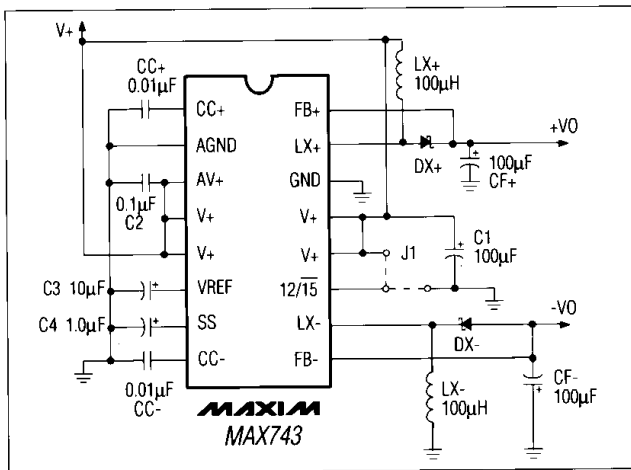
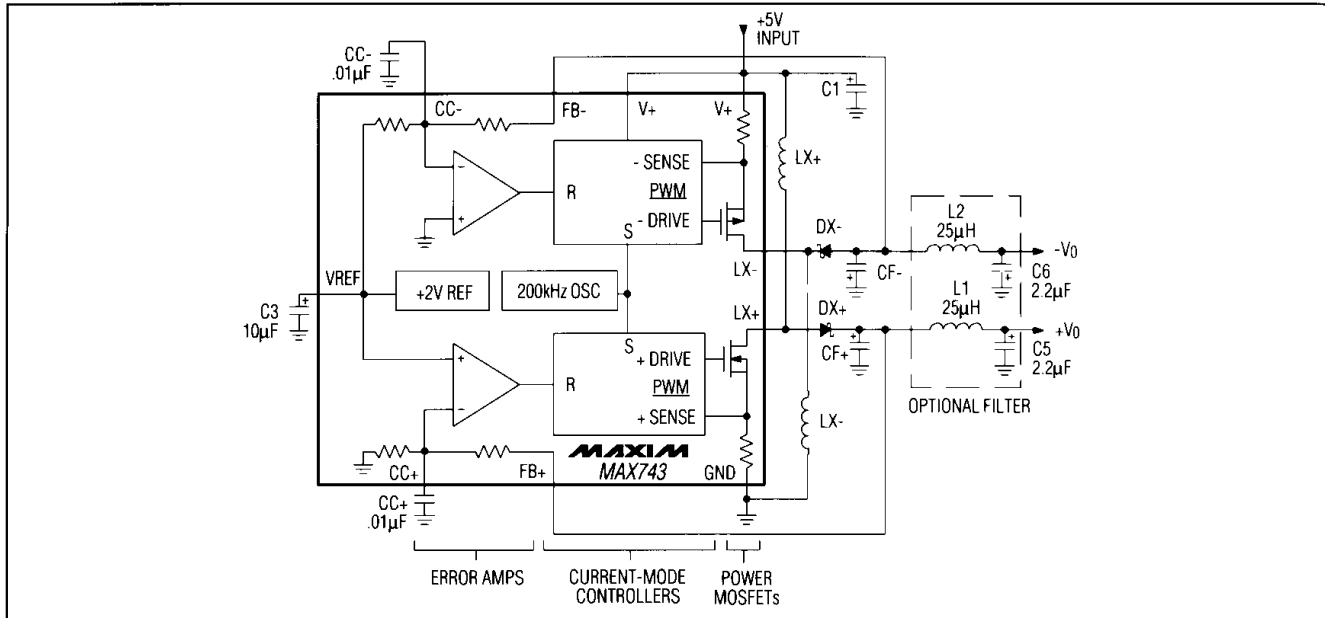
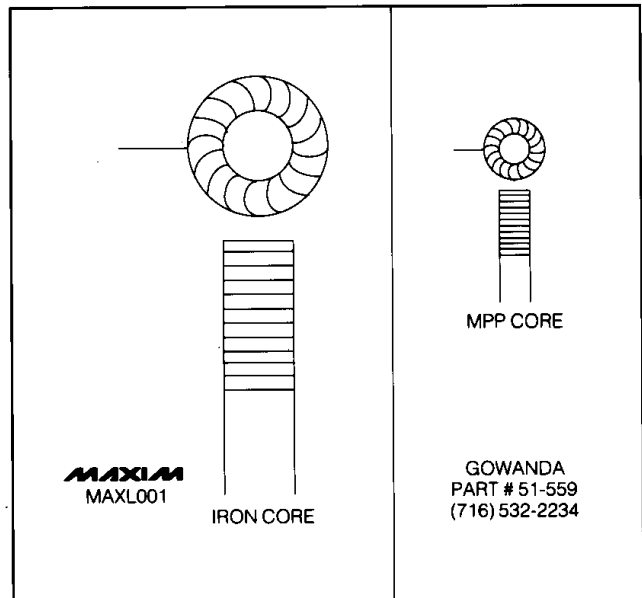
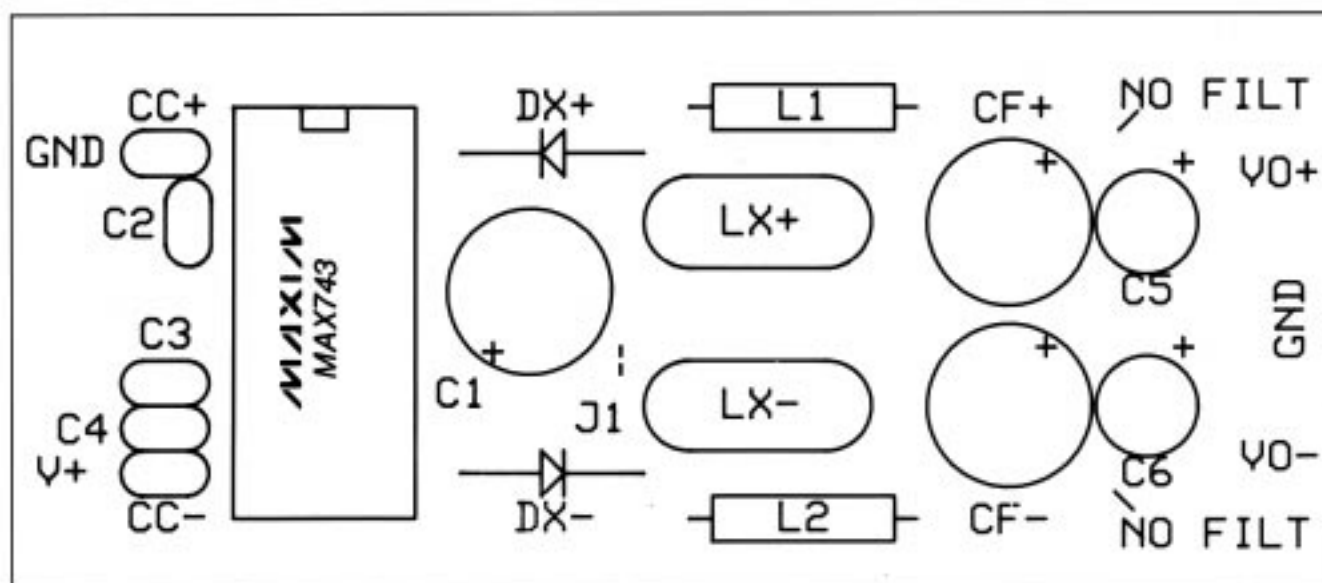

Figure 1. Basic Application Circuit
Figure 4. Functional Diagram with Optional Pi Filter
Figure 5. 100 μ H Low-EMI Inductors for 3W Supplies (Actual Sizes) (See Table 1)
Figure 7. Component Placement Diagram for PC Layout of Figure 6
(Circuit of Figure 1, +4.5V < V+ < +5.5V, Note1.)
(Circuit of Figure 1, V+ = +5.0V, 12/15 pin = 0V, I_{LOAD} = 0, T_A = T_{MIN} to T_{MAX}, unless otherwise noted.)
The circuit in Figure 1 has been tested at all line, load, output current, and temperature limits. Refer to the Electrical Characteristics table for guaranteed in-circuit specifications. Successful use of this circuit requires no component calculations.
The MAX743EVKIT Evaluation Kit demonstrates the output capabilities and noise performance of the MAX743 standard application circuit (Figure 1). The kit includes main switching components identical to those found in the high-volume production kit described on page 11 (MAX743CPEKIT). With a few quick modifications, the circuit can also serve as a low-noise test bed to evaluate other components, such as the miniature MPP toroid inductor of Figure 5. The kit includes optional Pi filters shown in the Functional Diagram (Figure 4), which reduce output noise to less than 2mVp-p.
1. Build Circuit. Assemble the PC board according to the component placement diagram of Figure 7 and the schematic of Figure 4. 3 resistors will be left over (and used for testing). The extra holes near LX and CF are options for nonstandard component sizes. Do not install jumper, J1, or C4.